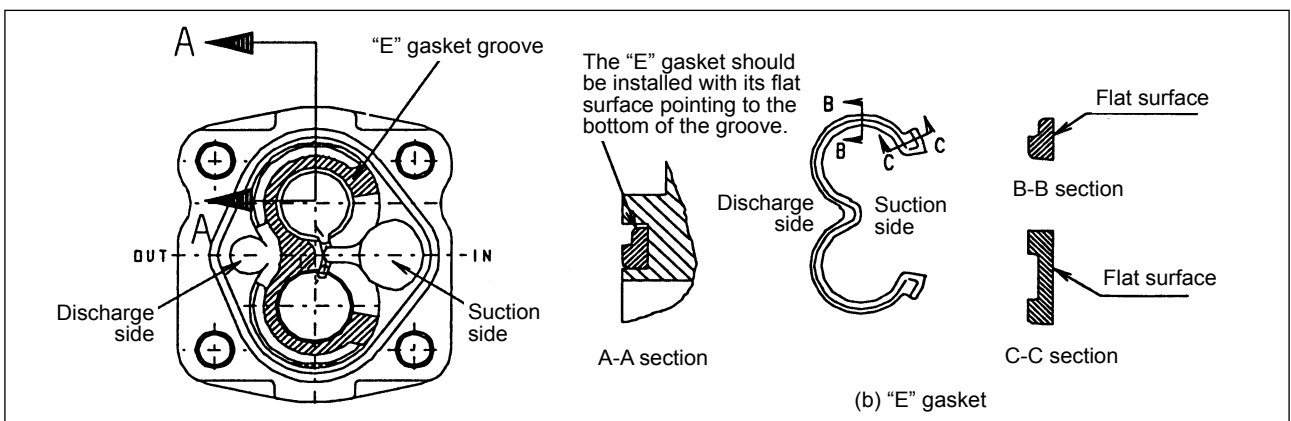

Fig. 3.403
- ⑬ Install a new “E” gasket (2) in the groove in the adapter (1), referring to Fig. 3.403.
- ⑳ Install the "E" gasket (1) on the rear cover (2), as shown in Fig. 3.403.